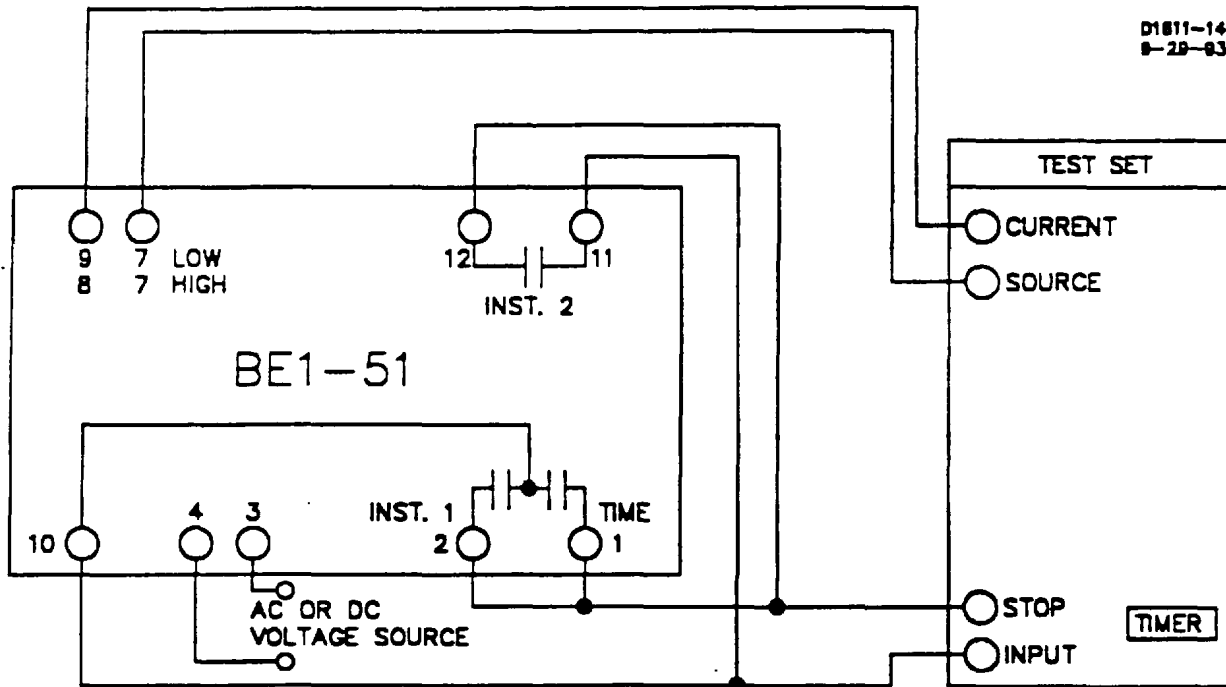

Figure 5-1. Test Setup for Sensing Input Type K (Single-Phase Sensing)
Minimum test equipment required for relay testing and adjustment is listed below. Refer to Figures 5-1 through 5-4 for test setups.
Step 1. Connect the relay test setup in accordance with Figures 5-1 through 5-4, depending upon the sensing input type for your relay (See Figure 1-1, Style Number Identification Chart).
(a) Sensing Input Type K (Single-Phase Sensing). Refer to Figure 5-1.
- Step 2. Reconnect the test setup to the INST 1 output terminals 2 and 10 as shown in Figures 5-1 through 5-4. Note that the timer may be removed from the test setup at this time.